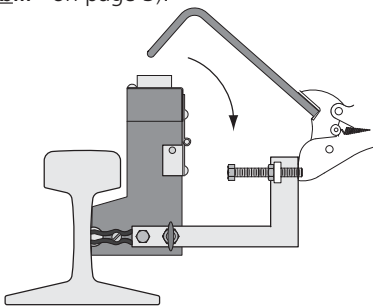

FIGURE 14
5. Place welder against rail web. Hold firmly or clamp if using T20 style. Clamp is adjustable for rail sizes. Check that mold face fits against rail and bond terminal is held against rail. **NOTE:** Clamp on T20 style can be swung out of way to make hand held welder. See Figure 14. Maintain correct positioning of the hand held welder at the neutral axis of the rail web (refer to **WARNING: Correctly positioning the mold against the rail web...** on page 3).